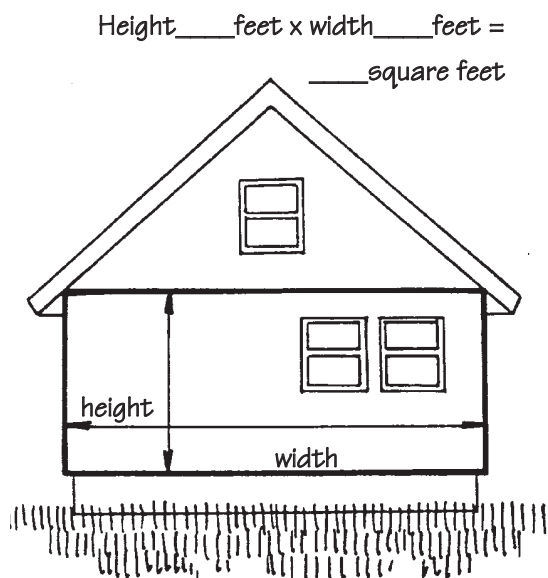

Figure 9. Wall Areas
- The area to be sided can be determined by measuring the height and width of the house, including windows (Fig. 9).